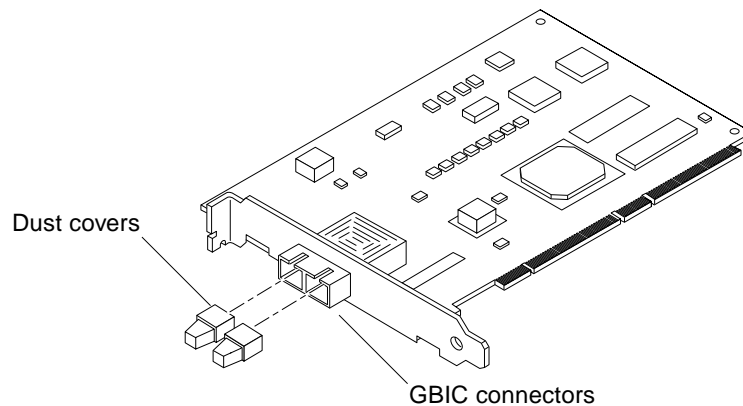

FIGURE 1-2 Sun StorEdge PCI FC-100 Host Adapter
1. **Pull the two dust covers out of the gigabit interface converter (GBIC) connectors (FIGURE 1-2).**